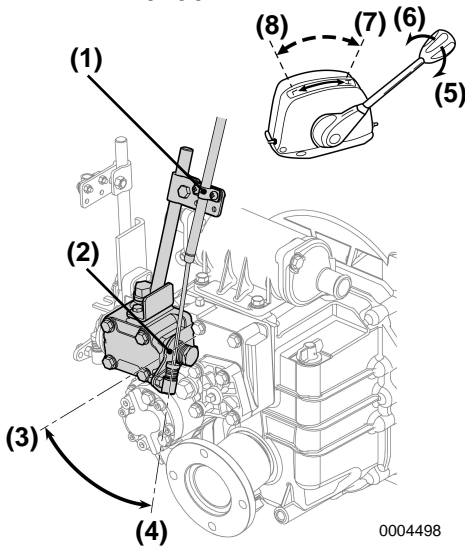

Figure 9
- Ensure that the trolling lever (**Figure 9, (2)**) is in the high-speed (**Figure 9, (4)**) position when the trolling remote control handle is in high-speed position (**Figure 9, (7)**).
- Ensure that the trolling lever is in the low-speed (**Figure 9, (3)**) position when the trolling remote control handle is in low-speed position (**Figure 9, (8)**).
- To adjust, loosen the adjustment screw of the cable fitting (**Figure 9, (1)**) and adjust the position of the cable.